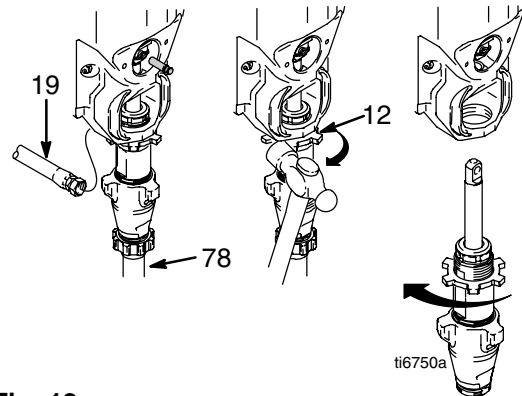

Fig. 12
5. Fig. 12. Remove suction tube (78) and hose (19).
6. Loosen pump jam nut (12). Unscrew pump.
5. Fig. 12. Install suction tube (78) and hose (19).